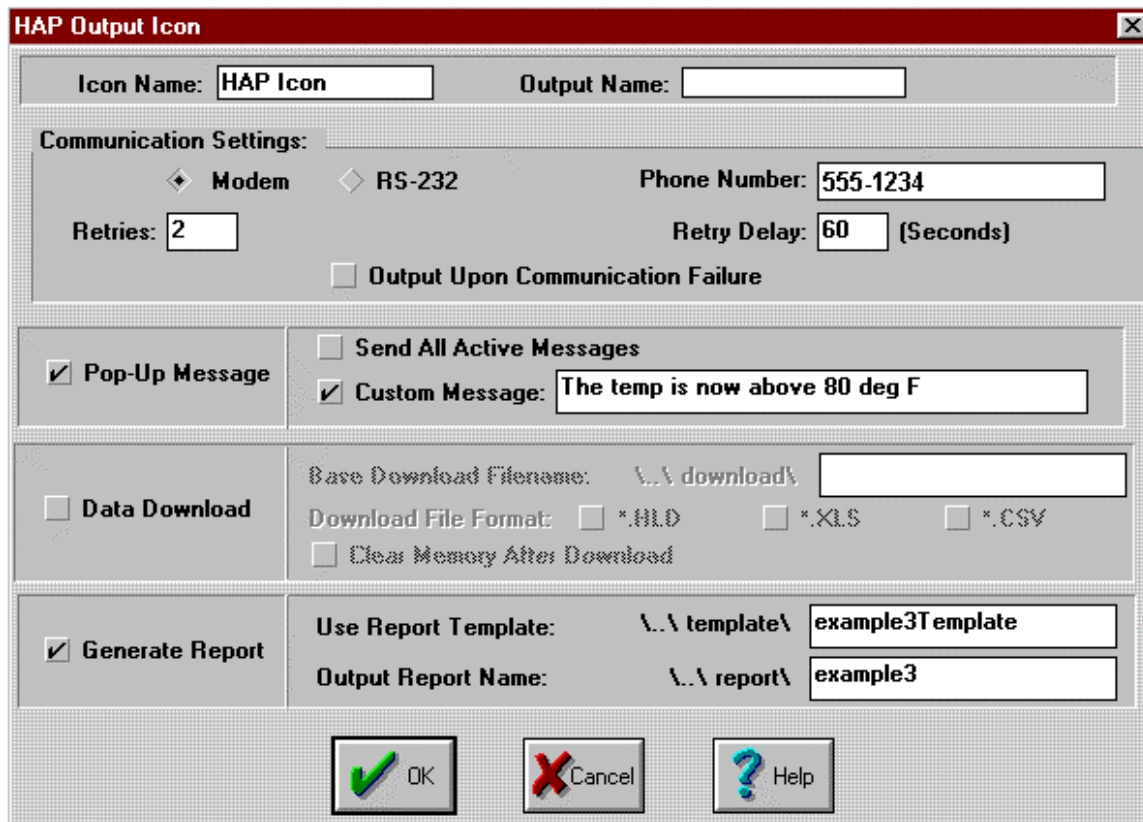

Figure 5.3.1b HyperWare HAP Icon Dialog, Example 5.3
2) Configure the HAP icon as illustrated below in figure 5.3.1b, except use the telephone number connected to your PC.
When the room temperature goes above 80 degrees F, the logger initiates a callup using the phone number illustrated in figure 5.3.1b above. The phone number has a PC modem connected with HAP AutoAnswer enabled. For test purposes you can set the “K” temperature to anything for a HAP Icon activation.